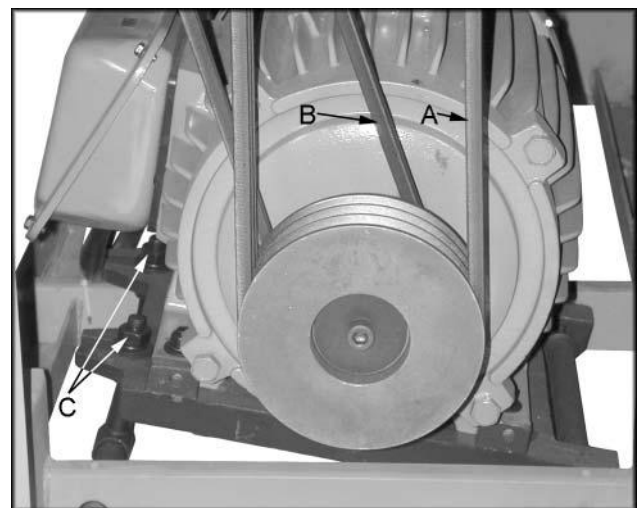

Figure 21
Three V-belts (A, Figure 21) drive the cutterhead. The single V-belt (B, Figure 21) drives the in-feed and out-feed rollers. Belt tension has been set at the factory. If the belts have stretched and need adjustment.
2. Open lower rear, and lower left-hand side panels. Loosen and tighten four adjustment nuts (C, Figure 21) to move motor plate up, or down to increase, or decrease belt tension. Tighten nuts against motor plate after adjustment is made.